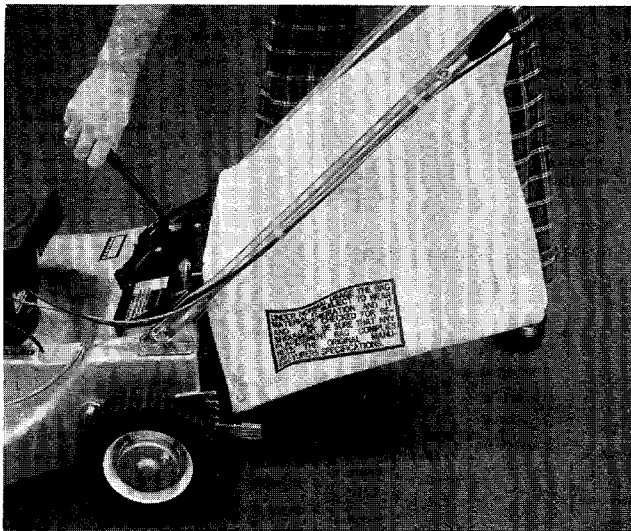

FIGURE 10.
1. Attach the grass catcher frame to the front of the adapter as shown in figure 10.